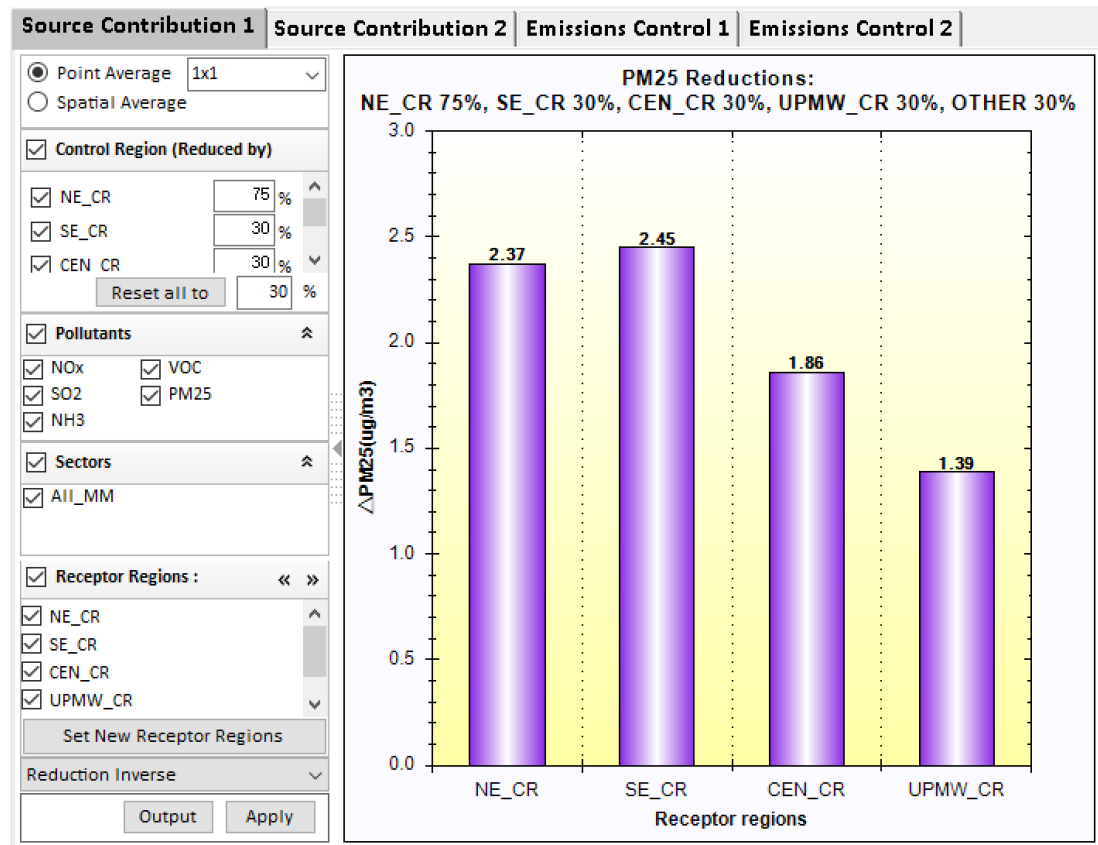

Fig. 61 Example of Source Contribution 1
Under **Source Contribution 1** module, it provides functions for users to analyze the source contribution to target pollutant (e.g., PM_{2.5}, O₃) in selected receptors from the different emission controls. As shown in Fig. 61, the left panel is the configuration options of **Source Contribution 1**, while the right panel shows the pollutant reductions under current configuration of emissions control.
Under this module, it allows user to compare the cumulative/cluster impacts and the different source contributions to PM_{2.5} or O₃ decrease caused by control factors (a control factor means a combination of region, pollutant, sector, e.g., NE_CR/NOx/All_MM) emission reductions under different emission control scenarios. As shown in Fig. 61, the configuration options in the left panel is similar to that of **Source Contribution 1**. The difference is that it provides three types of charts for visualization on the bottom of the configuration options, there are (1)Stack chart, (2)Cluster chart and (3)Pie chart.
Stack chart: This option shows the cumulative impacts of PM_{2.5} or O₃ decrease (Air quality improvements) caused by the emission control scenario from current configuration options. For example, Fig. 61 shows the ambient PM_{2.5} concentration of Northeast climate region(NE_CR) could be reduced by 2.37 $\mu\text{g}/\text{m}^3$ under the emission control scenario of NE_CR 75%, SE_CR 30%, CEN_CR 30%, UPMW_CR 30% and OTHER 30%. And the emission sources from primary PM_{2.5} (PM2.5/All_MM) contributes almost 60% to PM_{2.5} Reduction in NE_CR receptor.